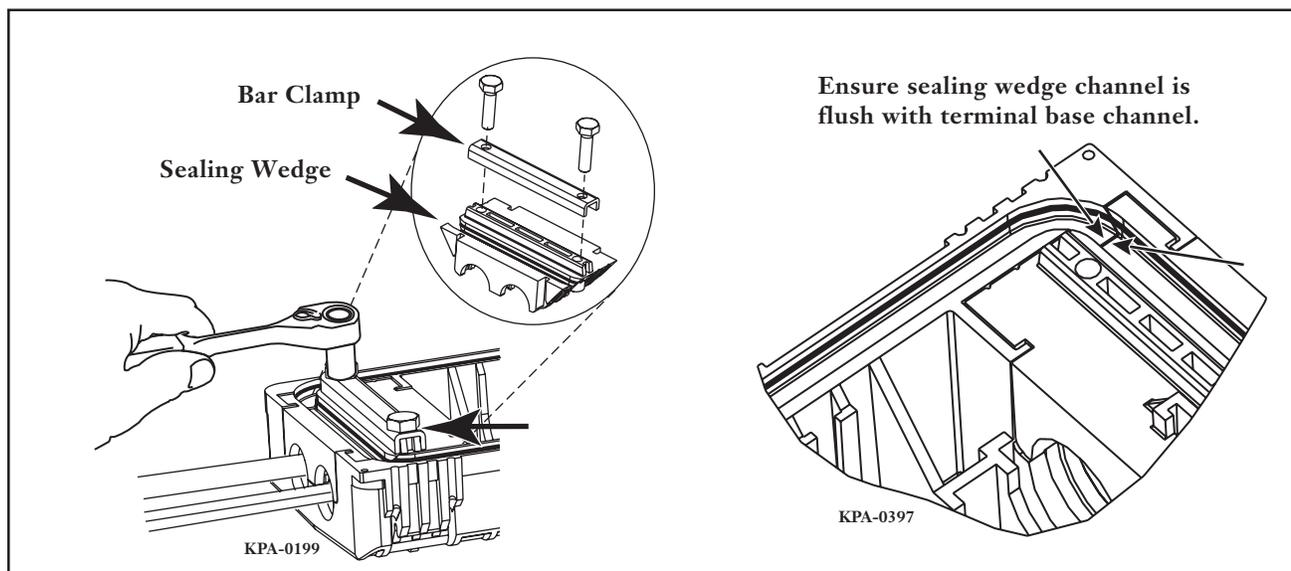

Figure 13 — Install Sealing Wedge
**Step 1** Install the sealing wedge over the cable by alternately tightening the bolts until the wedge is closed (Figure 13). The wedge must be flush with the base when closed.